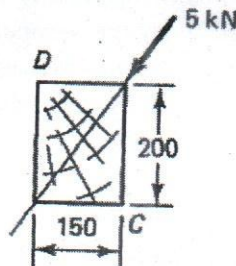

Fig. 10
- (b) A 150 x 200 mm beam spanning 6000 mm is loaded in the middle of the span with an inclined force of 5 kN along the diagonal of the cross section, as shown in Fig. 10. Determine the largest stresses and locate the neutral axis. (15)